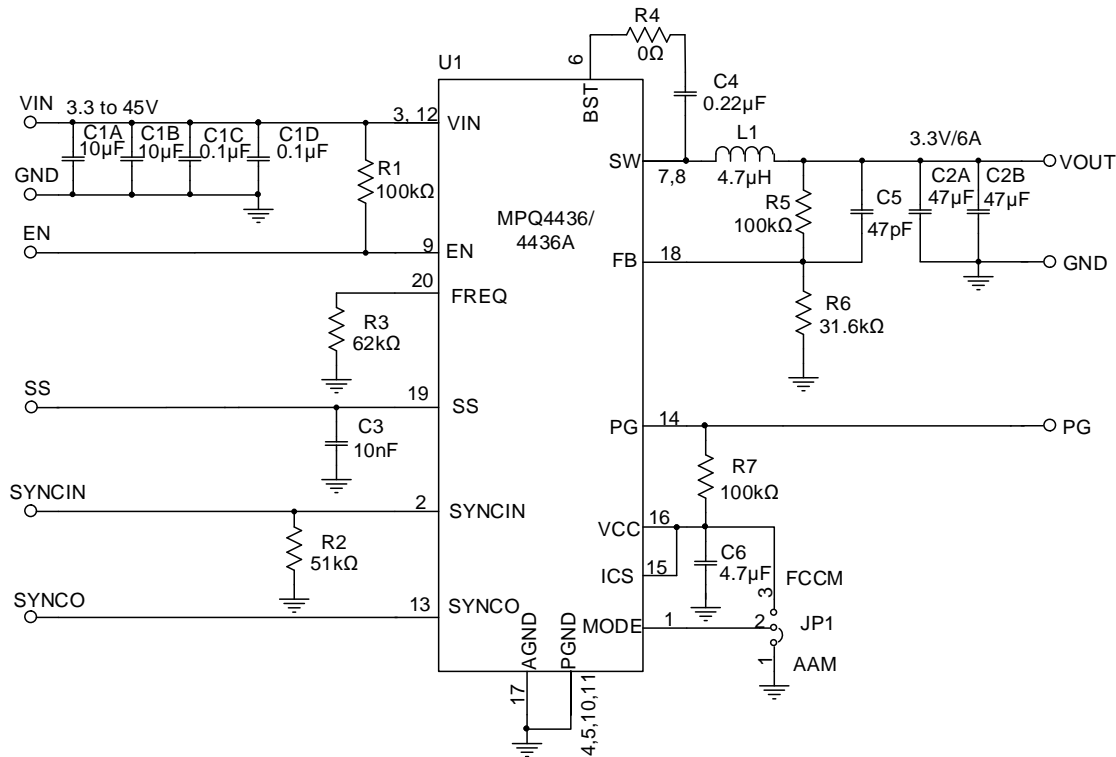

Figure 12: Single-Phase, V_{OUT} = 3.3V, f_{sw} = 470kHz
7) The recommended PCB layout is based on Figure 12.